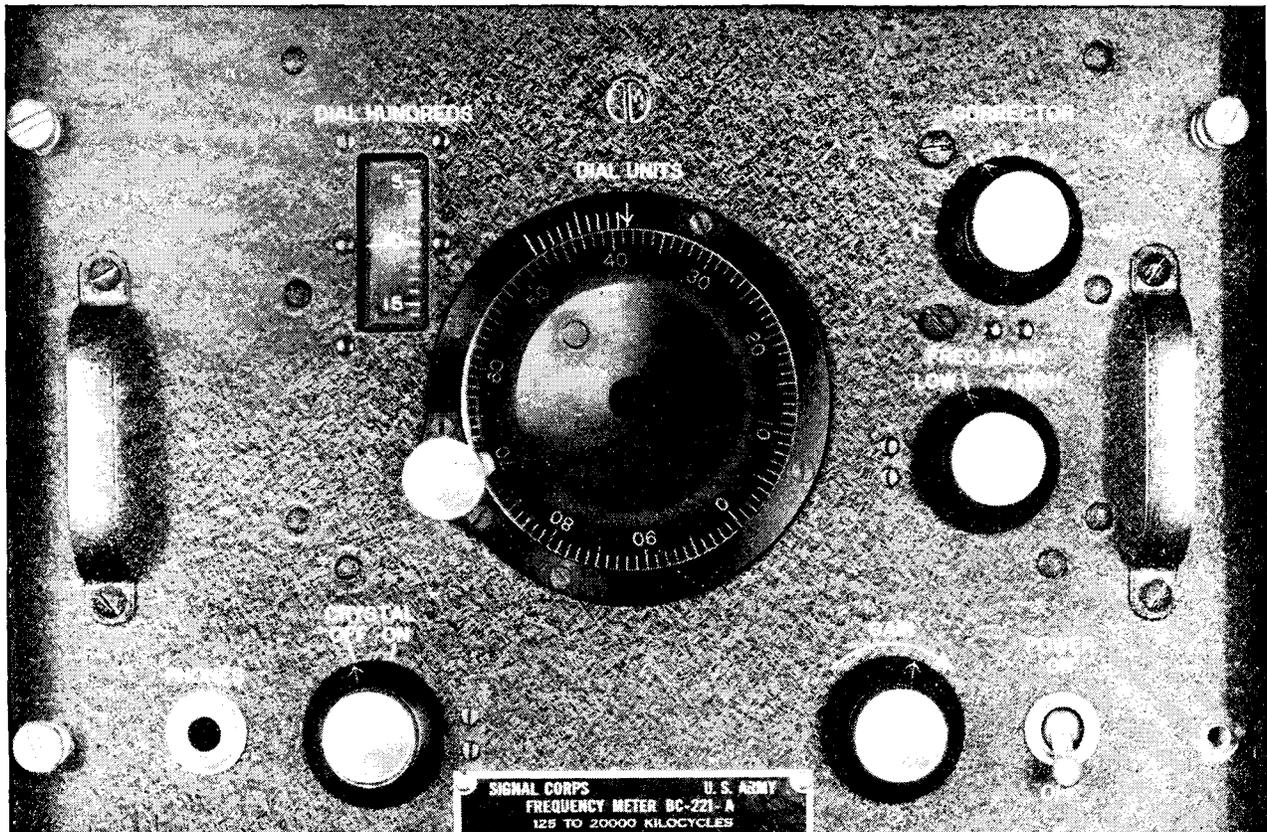
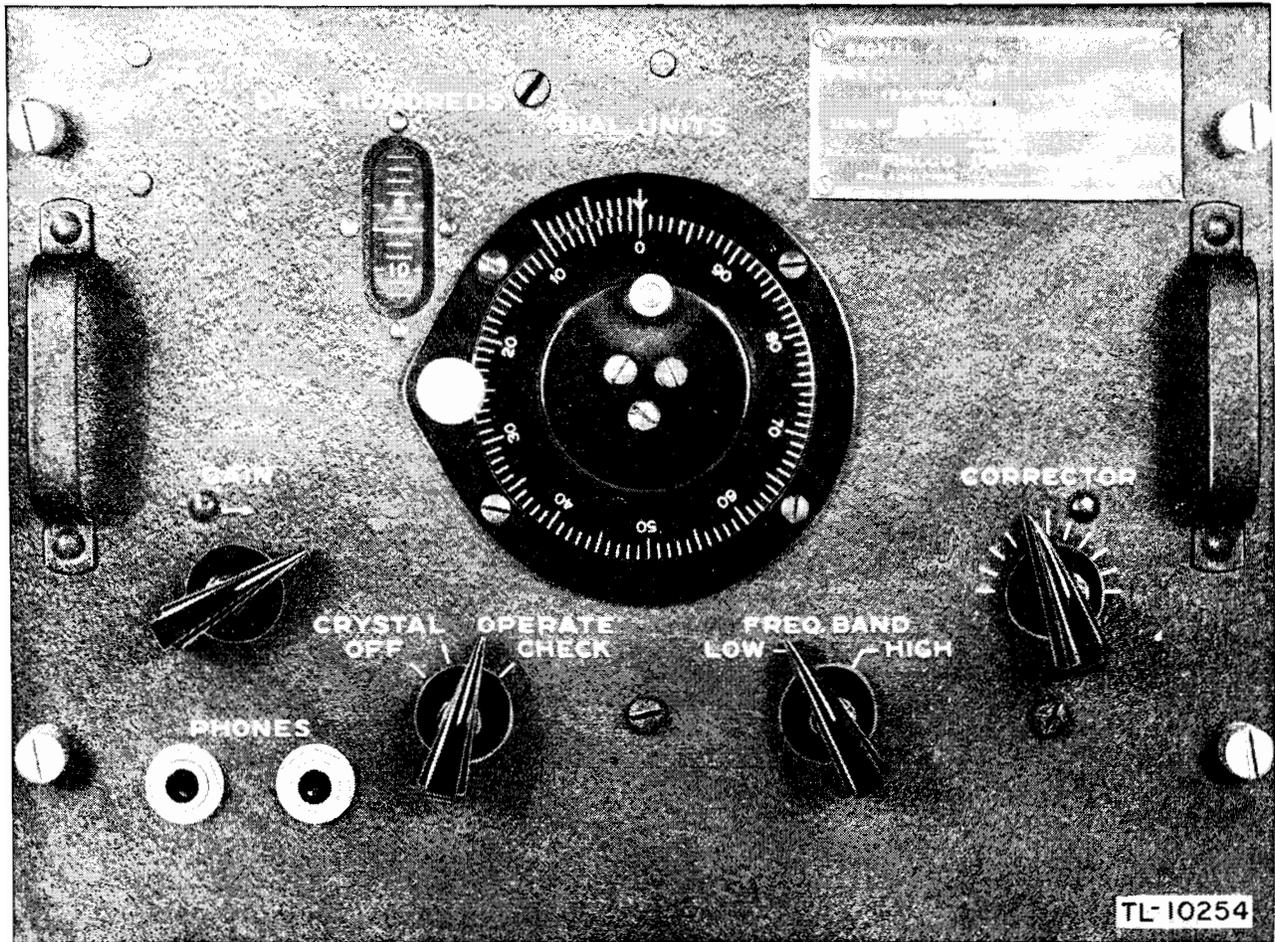

Figure 3. Frequency Meters BC 221-A, BC 221-C, and BC 221-D, control panel lay-out.
Figure 4. Frequency Meters BC-221-B, BC-221-E, BC-221-N, BC-221-Q, BC-221-AA, BC-221-AE, and BC-221-AG, control panel lay-out.
d. The various models of Frequency Meter BC-221-(&) come with six different types of control panel arrangement. Some of these arrangements are further modified in the location of the antenna post, ANT, and sometimes a ground post, GND, mounted on the control panel instead of on top of the cabinet. These modifications are shown on the figures of the particular models. (See figs. 3 through 8, incl.)
NOTES. 1. In addition to the controls shown on figure 4, the control panel of the BC-221-AA and BC-221-AE contains an antenna post, ANT, and the control panel of the BC-221-AG contains both an ANT and GND post.
operations. All models have a **FREQ. BAND LOW-HIGH** switch. In the case of figure 5, it will be seen that a third function, **CRYSTAL ONLY**, is combined with this switch. The greatest difference between the various models lies in the switch which controls the operation of the crystal oscillator. This switch is called the operation switch throughout this manual. In figures 3 and 5, it is marked **CRYSTAL OFF-ON**; in figure 4, it is marked **OFF-CRYSTAL-OPERATE-CHECK**; in figure 8, **OFF-WARM-UP-CRYSTAL-OPERATE-MODULATE-CHECK**; in figure 6, **HET. OSC-XTAL CHECK-XTAL ONLY**; and in figure 7, **MOD.**